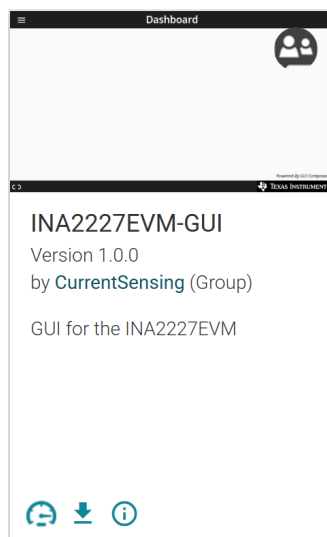

Figure 3-2. GUI Composer Application
3. Open the *GUI Composer* application to launch the GUI from the web browser (see Figure 3-2).
- Optionally, to download the GUI for offline use, click the  icon in the *GUI Composer* application and follow the prompts (see Figure 3-2).